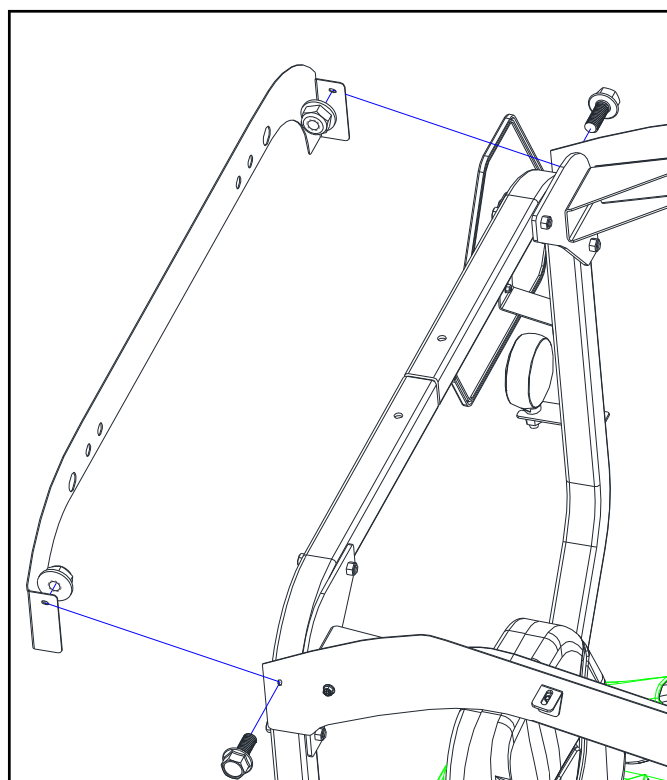

Fig. 3.1
3.1 Per Figure 3.1, fasten the upper rear panel to the inside of the door headers using the hardware listed below. **Install finger tight at this time.**